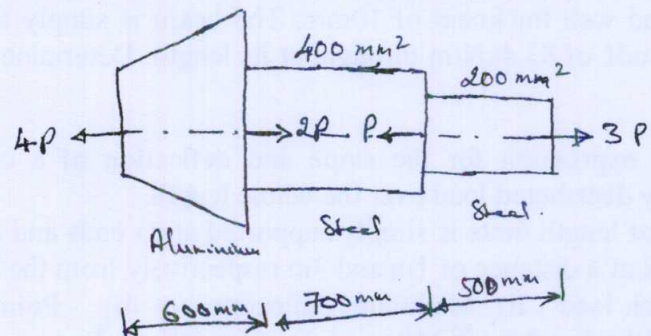

Fig.Q1(c)
- c. A round bar with stepped portion is subjected to the forces as shown in fig.Q1(c). Determine the magnitude of force P, such that net deformation in the bar does not exceed 1mm. E for steel is 200 GPa and Aluminium is 70 GPa. Big end diameter and small end diameter of the tapering bar are 40mm and 12.5mm respectively. (08 Marks)